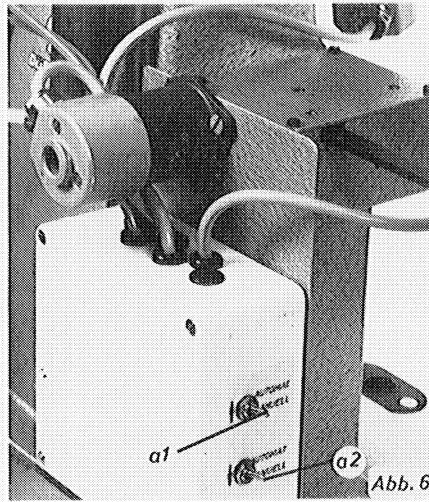

Abb. 6
Depending on the position of the switches a 1e and a 2 (fig. 6) , four different functions can be obtained:
3. Both switches a 1 and a 2 (fig. 6) in the upper „automatic” position.